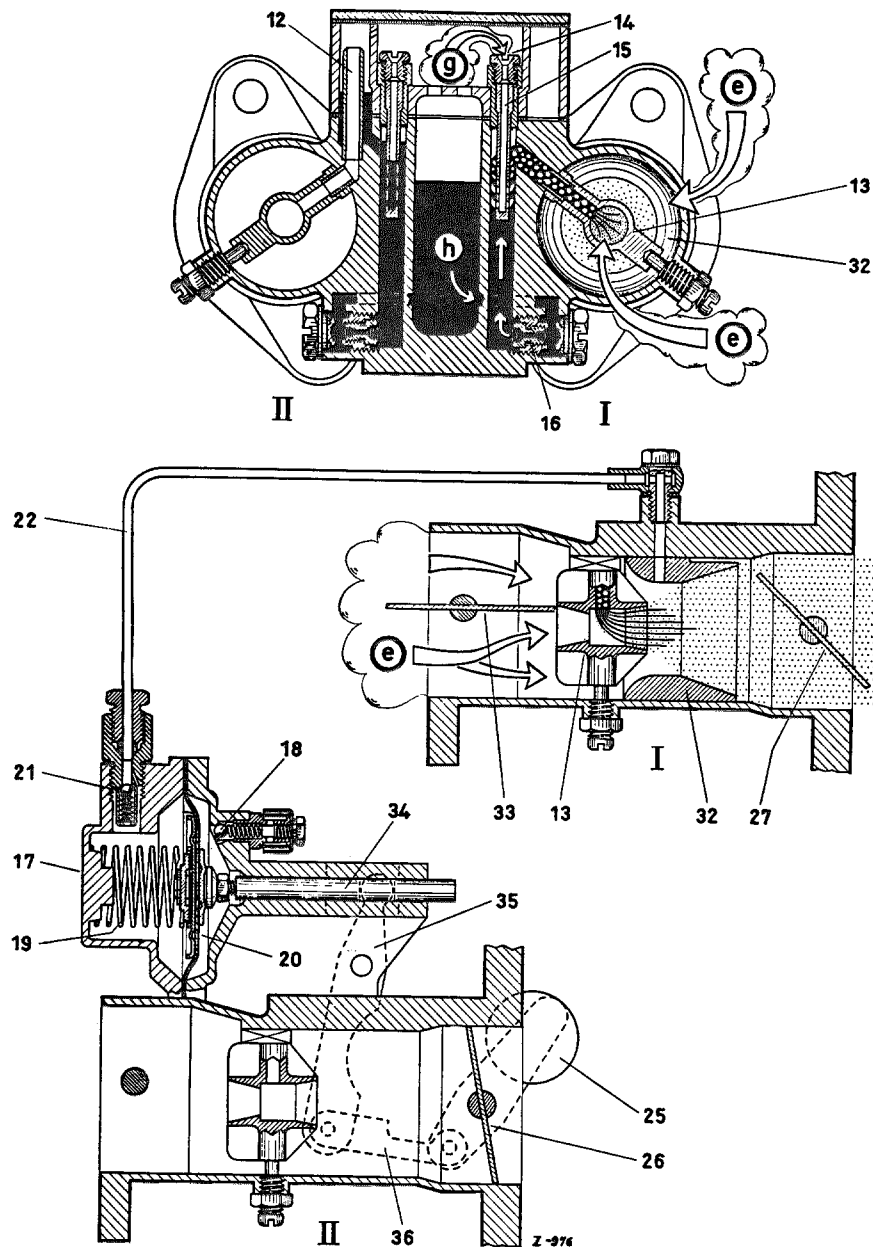

Fig. 07-0/45
Note: a) Fig. 07-0/44 shows the die-cast carburetor. As far as the main carburetion system is concerned, the sand-cast carburetor works the same way, the only difference is in the arrangement of the canals and jets (see 07-0/31).
- e) In the sand-cast carburetor the overflow control tube is screwed to the carburetor housing, whereas in the die-cast carburetor it is located inside the carburetor (see Figs. 07-0/31 and 07-0/44).
When the throttle valve (27) of stage 1 is opened, the partial vacuum begins to have an effect on the outlet tube of the diffuser. As a result, fuel is drawn from the cylindrical cavity via the outlet tube of the diffuser and is mixed with the air entering through the air inlet branch. Compensating air enters through the air correction jet (14) in progressively larger amounts, passes through the bores of the mixing tube (15) and combines with the fuel flowing through the main jet to form a mixture. Air enrichment increases with increasing engine speed, thus preventing overenrichment of the mixture (Fig. 07-0/45).